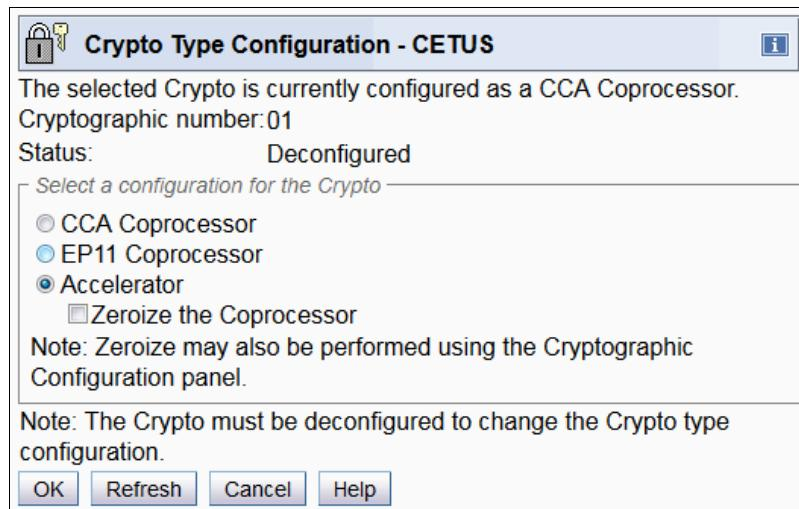

Figure 10-12 Crypto Type Configuration (CCA coprocessor to Accelerator)
4. Change the configuration for the cryptographic coprocessor adapter. The selected cryptographic coprocessor channel is configured as a coprocessor (Figure 10-12). Select **Accelerator**.
The procedure for changing the type of the cryptographic configuration from an accelerator to a coprocessor is now complete. To change the accelerator back to a coprocessor, the same procedure can be used, but select **Coprocessor** instead of **Accelerator**, as shown in Figure 10-12 on page 243.
2. The reconfiguration is enabled only for PCIe adapters that are set to **Off**, so be sure the PCIe Cryptographic adapter status for that cryptographic coprocessor channel is unconfigured (Figure 10-12 on page 243). If necessary, set the PCIe Cryptographic adapter to **Off** for all partitions that have it in their candidate list. To set the PCIe Cryptographic adapter to **Off**, use the procedure described in “Configuring a Crypto Express6S online or offline on a logical partition” on page 248.